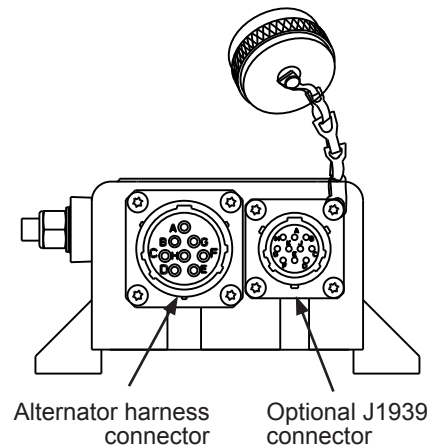

Figure 3 — A2-339 Connector Identification
- offers optional J1939 communication. See figure 3.